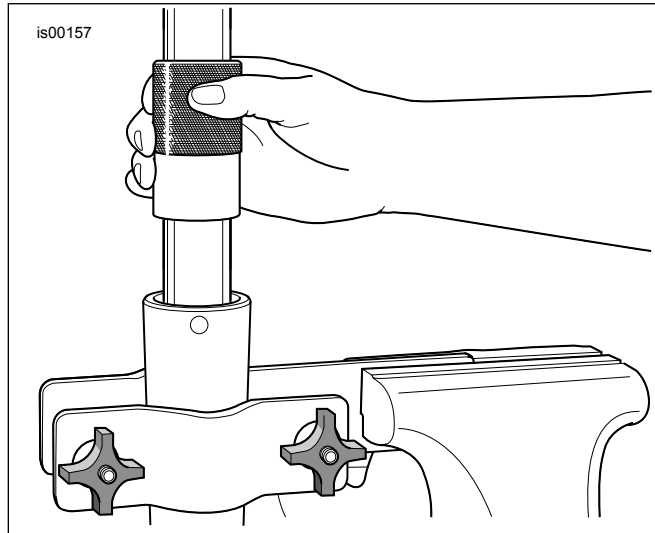

Figure 5. Install Fork Oil Seal
- b. See Figure 5. Using the tool like a slide hammer, drive fork oil seal (with slider spacer and guide bushing) down the fork tube until retaining clip groove is visible in fork slider ID.
- c. Slide the retaining clip (I) down the fork tube until it contacts the fork oil seal. Install retaining clip in the fork slider groove. Do not expand or stretch retaining clip to install on fork tube or clip may become bent or distorted.